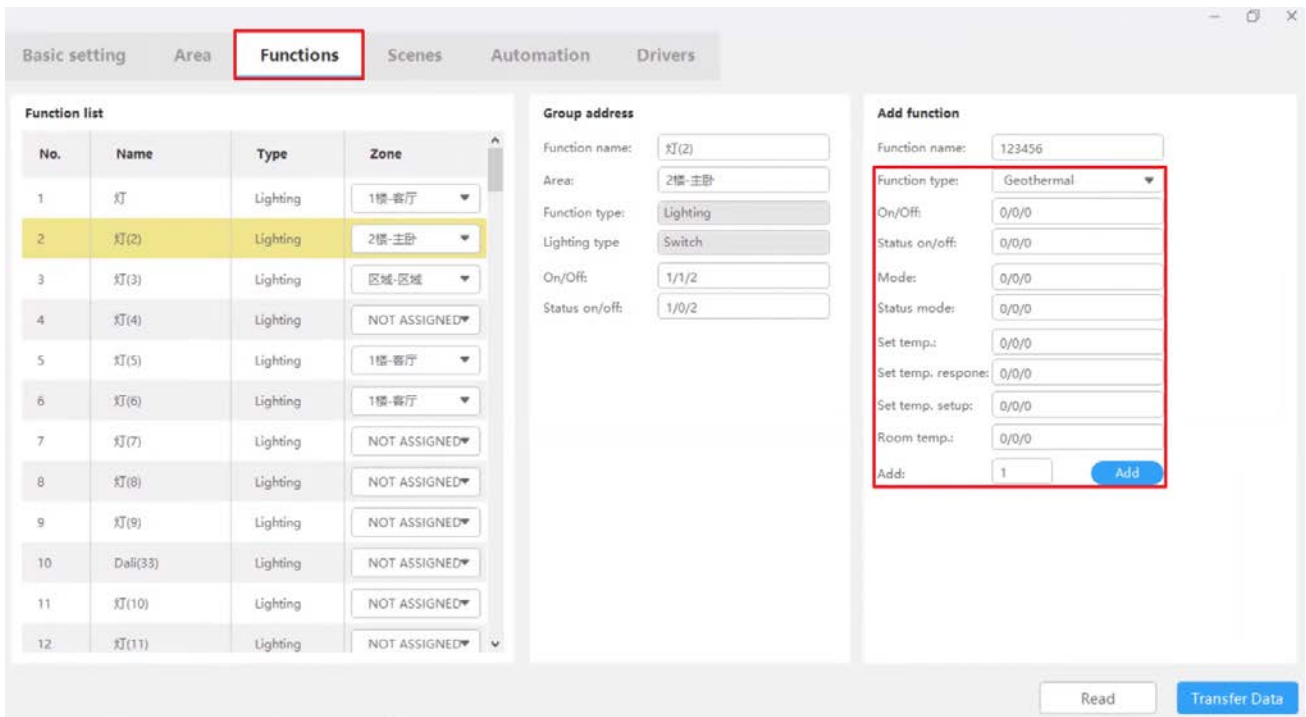

Figure 5-5 Geothermal
- Geothermal (refer to floor heating): As shown in Figure 5-5, you can select geothermal and proceed configuration.